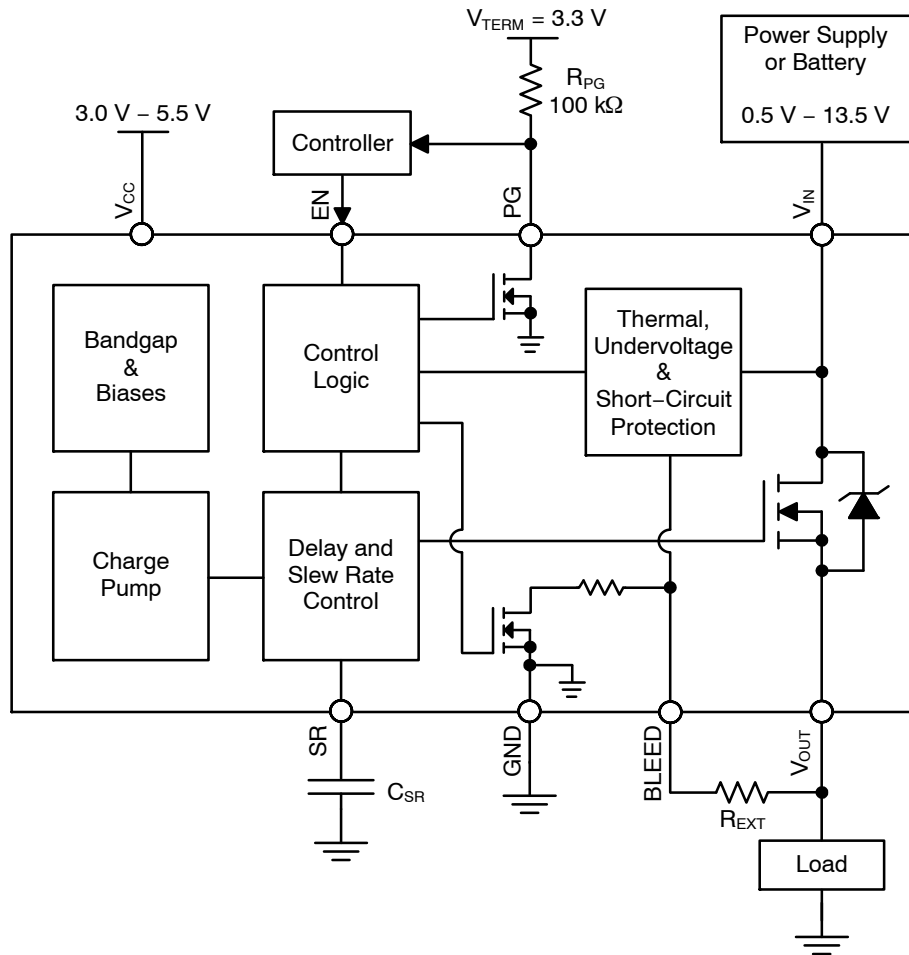

Figure 30. Typical Application Diagram – Load Switch
It is required that the BLEED pin be connected to V_{OUT} either directly (as shown in Figure 31) or through an external resistor, R_{EXT} (as shown in Figure 30). R_{EXT} should not exceed 1 k Ω and can be used to increase the total bleed resistance.
The NCP45560 devices have a power good output (PG) that can be used to indicate when the gate of the MOSFET is fully charged. The PG pin is an active-high, open-drain output that requires an external pull up resistor, R_{PG} , greater than or equal to 1 k Ω to an external voltage source, V_{TERM} , compatible with input levels of other devices connected to this pin (as shown in Figures 30 and 31).
The slew rate can be decreased with an external capacitor added between the SR pin and ground (as shown in Figures 30 and 31). With an external capacitor present, the slew rate can be determined by the following equation:
Once active, the circuitry monitors the difference in the voltage on the V_{IN} pin and the voltage on the BLEED pin. In order for the V_{OUT} voltage to be monitored through the BLEED pin, it is required that the BLEED pin be connected to V_{OUT} either directly (as shown in Figure 31) or through a resistor, R_{EXT} (as shown in Figure 30), which should not exceed 1 k Ω . With the BLEED pin connected to V_{OUT} , the short-circuit protection is able to monitor the voltage drop across the MOSFET.